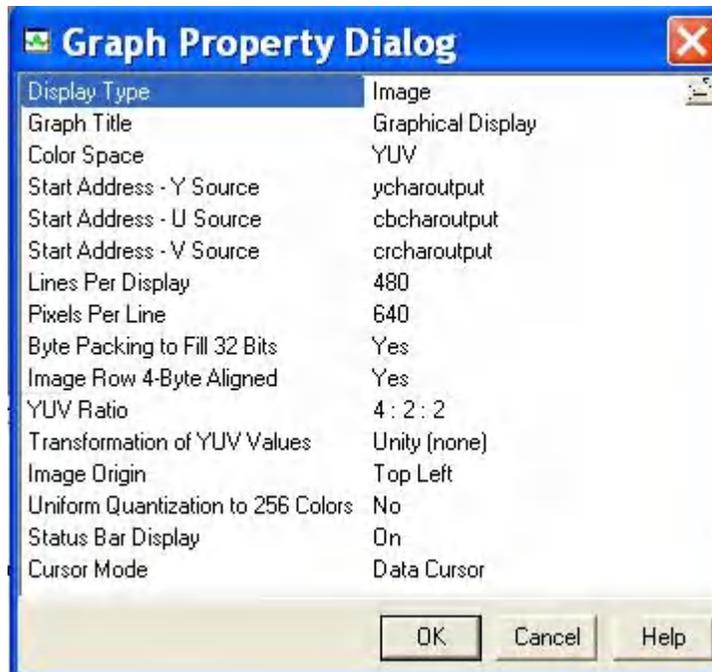
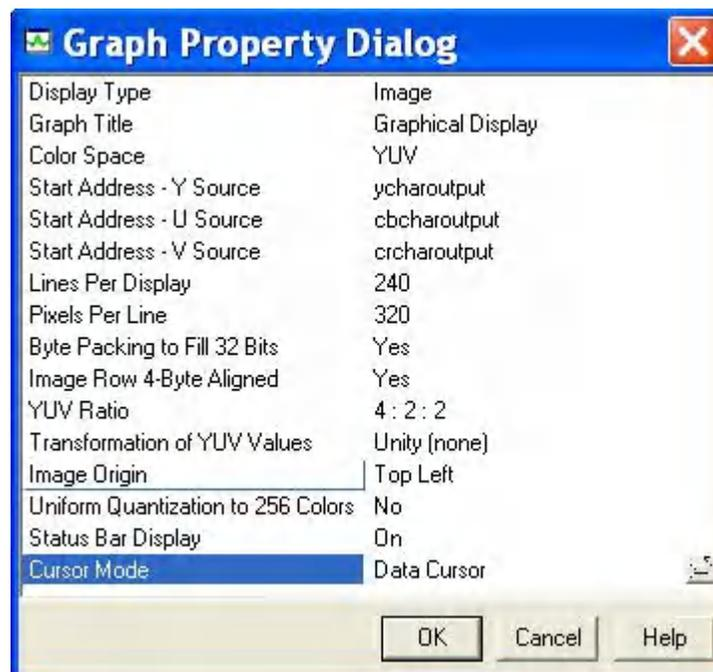

Figure 3. Graph Property Dialog settings for up scaling application
Figure 6. Graph Property Dialog settings for down scaling application
7. The Graph Property Dialog will be displayed as shown in Figure 3. In Graph Property Dialog window enter all configuration values as shown in Figure 3. Configure it with ycharoutput, cbcharoutput and crcharoutput. Configure lines per display as 480 and pixel per line as 640. Also select YUV ratio as 4:2:2 and image origin as Top-left.
7. The Graph Property Dialog will be displayed as shown in Figure 3. In Graph Property Dialog window enter all configuration values as shown in Figure 6. Configure it with ycharoutput, cbcharoutput and crcharoutput. Configure lines per display as 240 and pixel per line as 320. Also select YUV ratio as 4:2:2 and image origin as Top-left.
7. The Graph Property Dialog will be displayed as shown in Figure 3. In Graph Property Dialog window enter all configuration values as shown in Figure 9. Configure it with ycharoutput, cbcharoutput and crcharoutput. Configure lines per display as 64 and pixel per line as 128. Also select YUV ratio as 4:2:2 and image origin as Top-left.